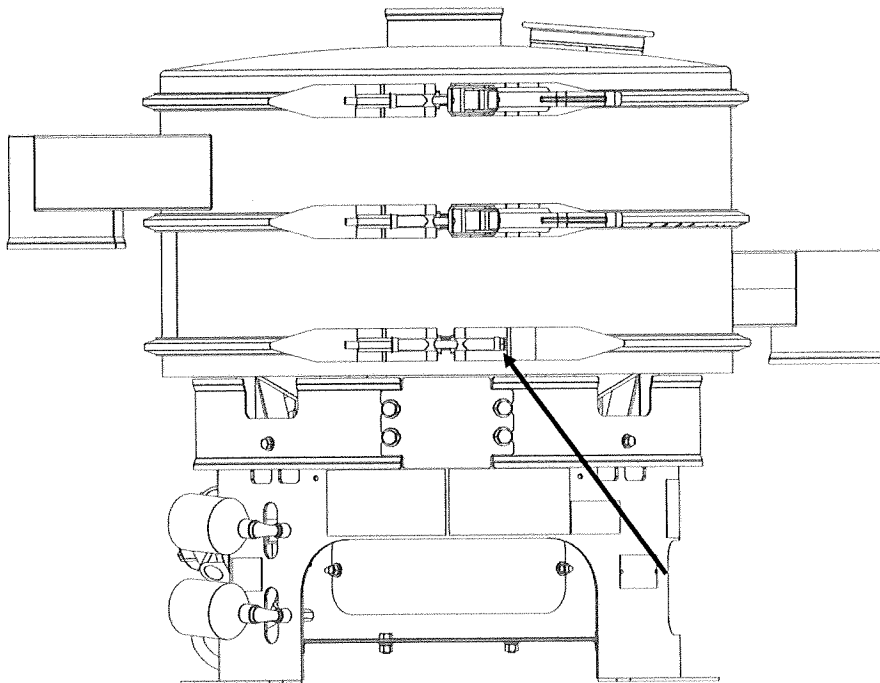

Figure 24 Clamp Band Securing Lower Frame to Drive Table (Arrowed)
- b. Remove all parts located above the lower table (clamp band, feed cover, frames, screens, etc.), including the clamp band securing the lower frame to the drive table (Refer to Figure 24).